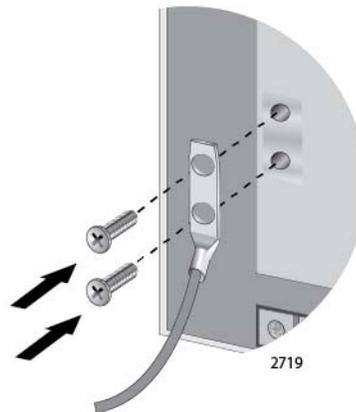

Figure 44. Installing the Grounding Lug and Wire
4. Install the grounding lug on the rear panel of the chassis, as shown in Figure 44. Allied Telesis recommends tightening the screws to 20 inch-lbs.